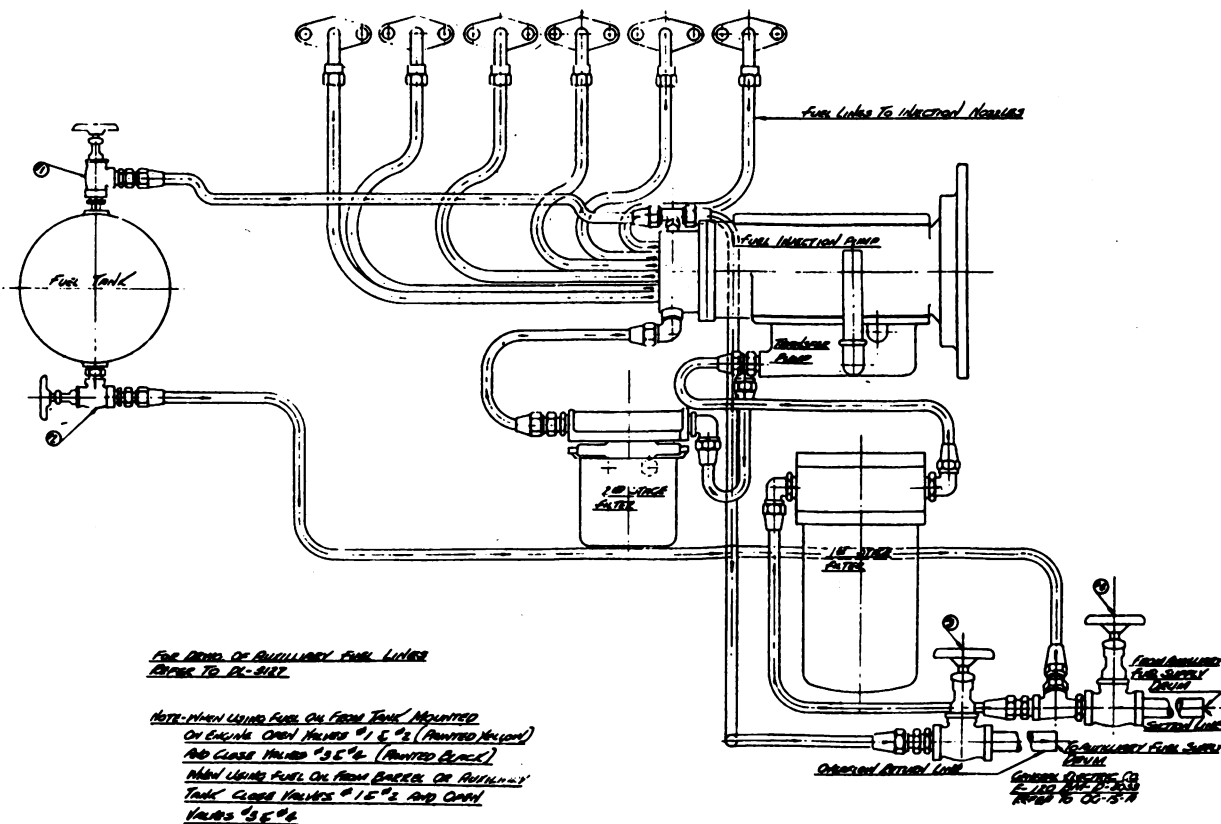

Fig. 6. Fuel System
**10. Fuel Injection System.** The fuel system cleans, prepares, controls, and times the flow of the fuel to the engine. (See Figure 6.) The fuel passes through the primary filter to the fuel